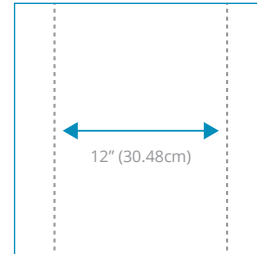

Figure 3
1. Mark desired installation location for Rails (A) (Figure 3). We recommend the use of a laser level or chalk snap line to assist with alignment.